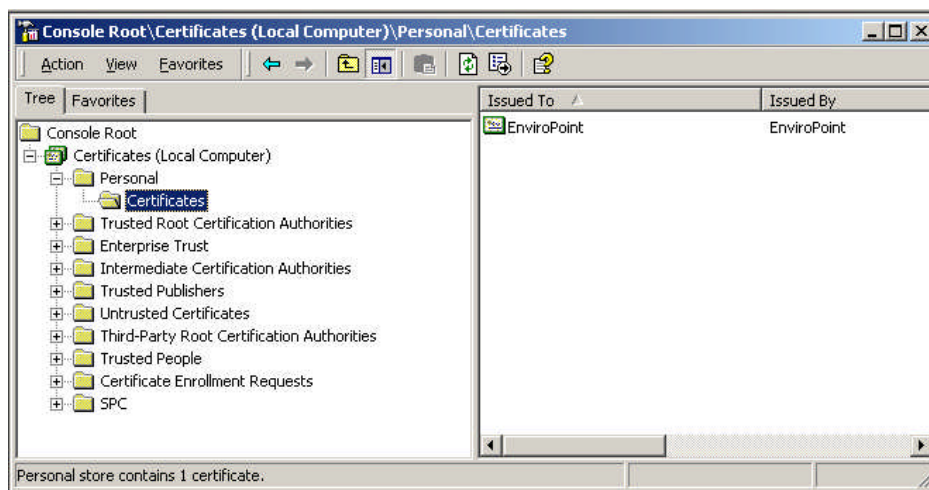

Figure 1-7
- In the Console Root, expand Certificates (Local Computer), see Figure 1-7.
To check certificate import: expand Certificates/Personal/Certificates. The *EnviroPoint* certificate should be present as in Figure 1-7.